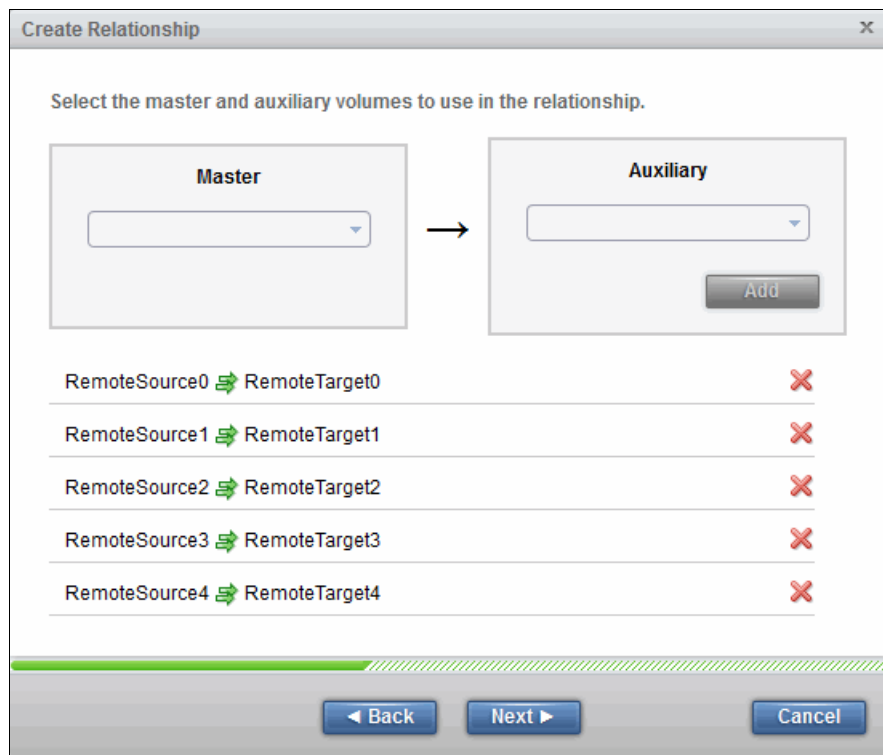

Figure 10-102 Define multiple independent relationships
- You can define multiple and independent relationships by choosing another set of volumes and clicking **Add** again. Incorrectly defined relationships can be removed by clicking the red "X". In our example, we create five independent Remote Copy relationships, as shown in Figure 10-102.